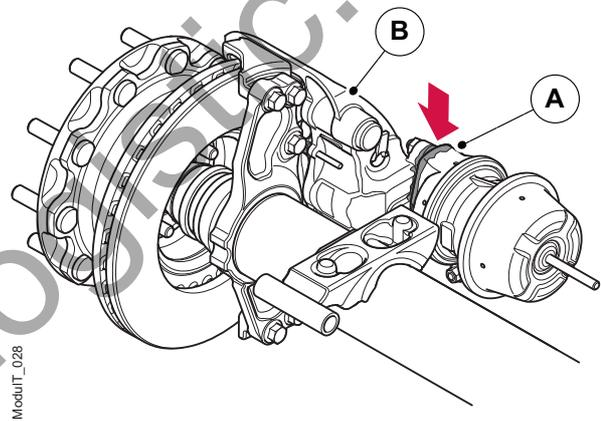

Figure 22. The mating surfaces of the brake chamber and calliper
2. Thoroughly clean around the mating surfaces of the brake chamber (A) and calliper (B) to ensure that dirt does not get into the mechanism area when removing the brake chamber. See figure 22.